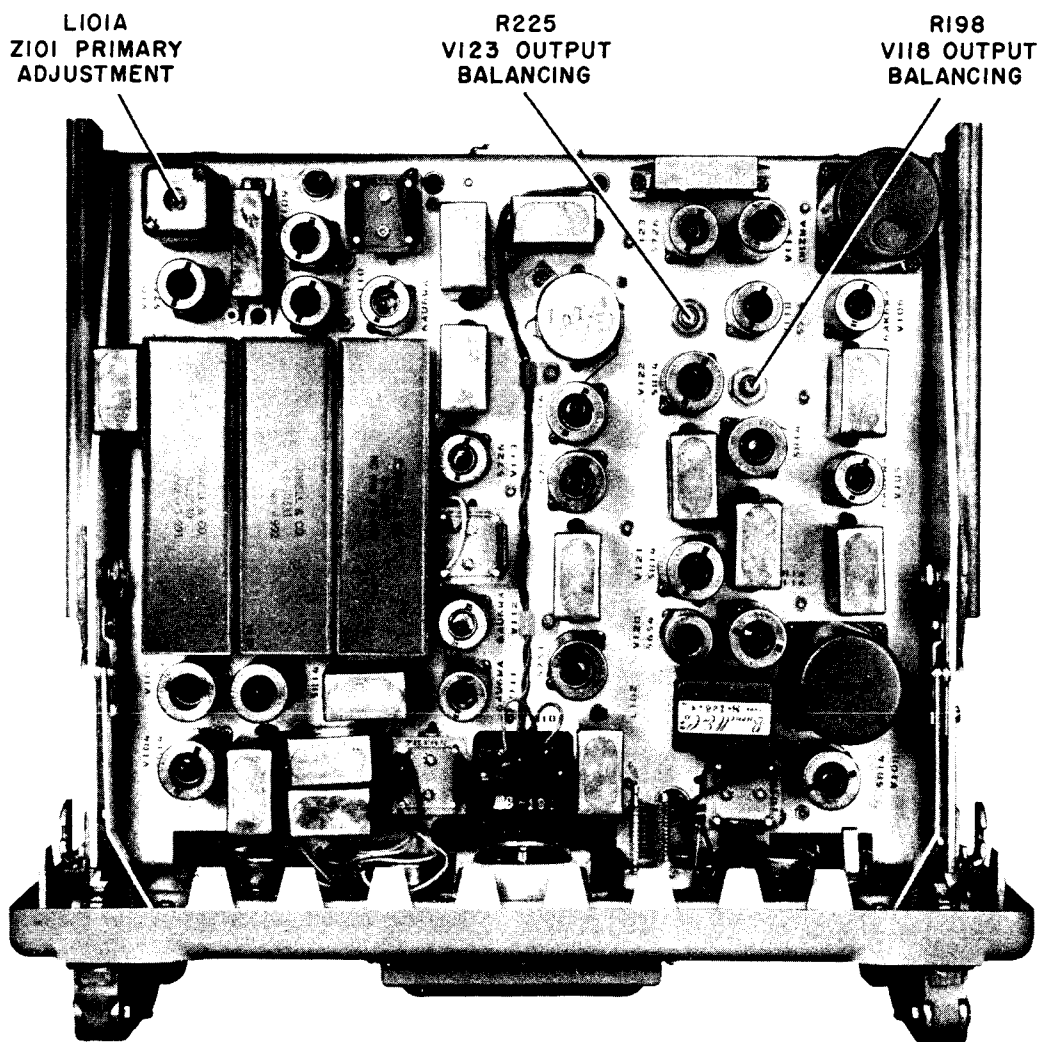

Figure 7-5. Top View, Upper Chassis, Showing Location of Alignment Adjustments
c. ADJUSTMENT OF THE DIODE BALANCE CONTROLS. (See Figure 7-5.)—If any major servicing is accomplished in either of the DC Restorer circuits, the appropriate diode balance control should be adjusted as soon as possible. Diode Balance potentiometer R198 is to be adjusted after major servicing in the DC restorer V118 circuit and R225 is to be adjusted for DC restorer V123. The procedure for adjusting the Diode Balance control R225 in the tuning oscillator AFC circuit is as follows:
AGC switch in CARRIER AGC position. See Figure 7-5 for the location of the AGC switch.
a peak reading on the Carrier Level meter. See Figure 7-5.